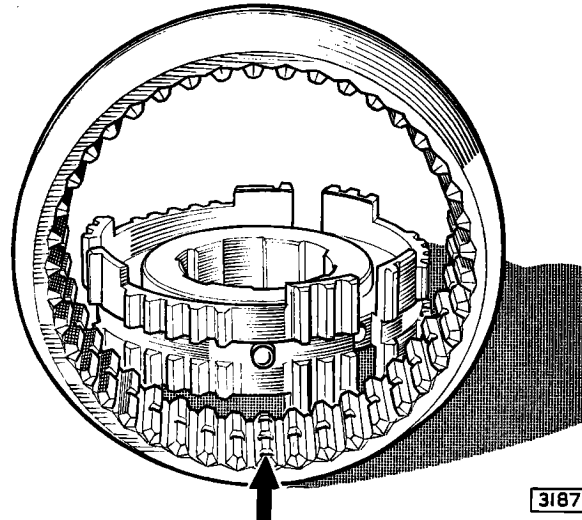

Fig. 13. Fitting the synchro hub in the sleeve.
- (ii) The three balls and springs in line with the teeth having three detent grooves (see Fig.13).